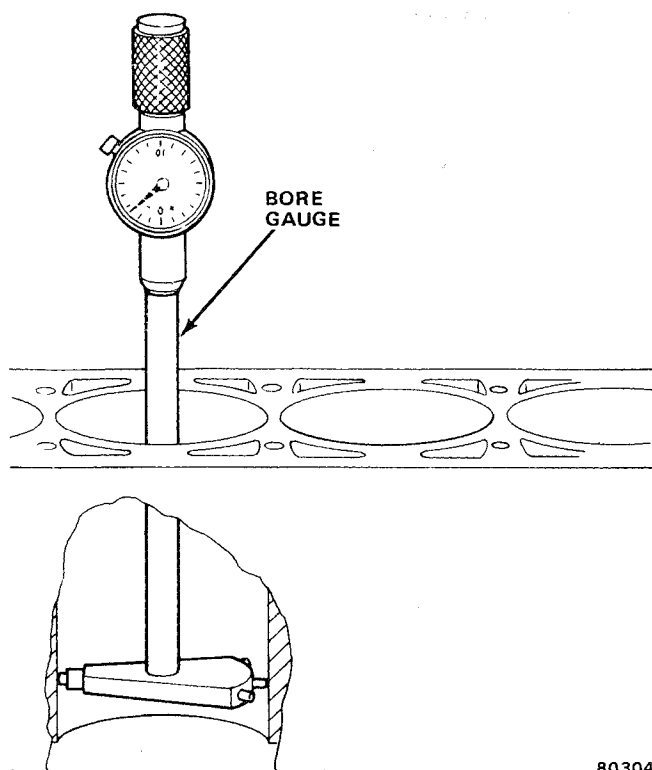

Fig. 1B-58 Measuring Cylinder Bore with Bore Gauge
Use a bore gauge to measure the cylinder bore (fig. 1B-58). If a bore gauge is not available, use an inside micrometer.
- (1) Install upper main bearing inserts in cylinder block.
- (2) Install crankshaft.
- (3) Install main bearing caps and inserts. Apply oil to insert before installing. Tighten screws to 80 foot-pounds torque. Plastigage all bearings if replacement bearings or crankshaft have been installed.
- (4) Clean cylinder bores thoroughly. Apply light film of clean engine oil to bores with clean, lint-free cloth.
- (5) Install piston rings on piston. Refer to Piston Rings for sequence.
- (6) Lubricate piston and rings with clean engine oil.
- (7) Use Piston Ring Compressor Tool J-5601 to install connecting rod and piston assemblies through top of cylinder bores (fig. 1B-35).